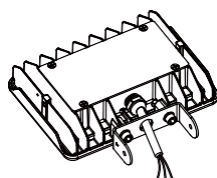

figure 2.2
Step 3: Fix the lamp and bracket together with screws;(Watch out not to scratch the wire)(figure 2.2)